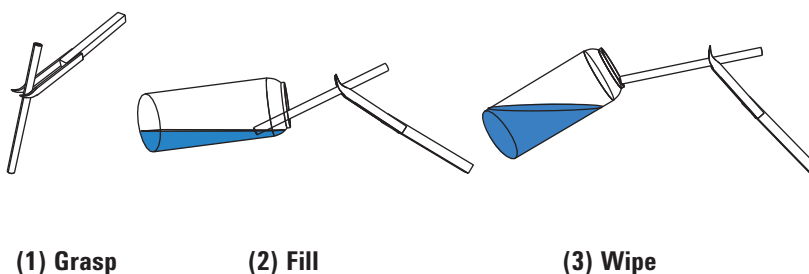

Figure 18 Filling the pipette
- 3 Hold the pipette with clean tweezers. With the checkout sample bottle and the pipette as close to horizontal as practical, dip the end of the pipette into the sample. See Figure 18.